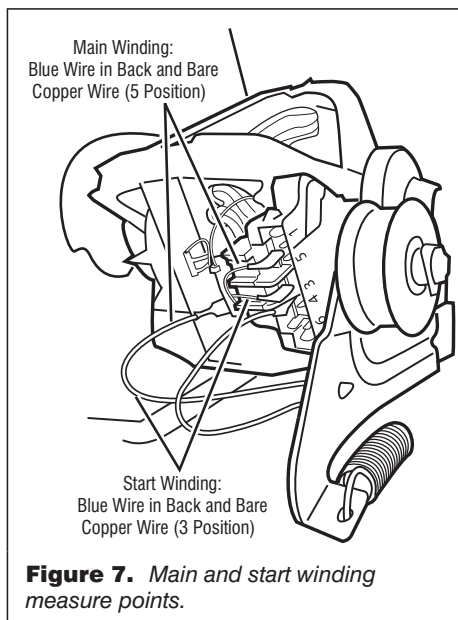

Figure 7. Main and start winding measure points.
7. Using figure 7, check for the resistance values of the motor's Main and Start winding coils as shown in the following table.